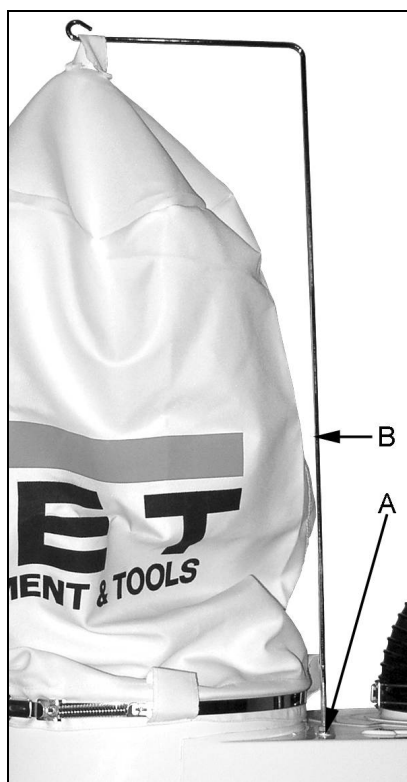

Fig 8
Attach the bag support rods (B, Fig 8) with M6 nut, spring washer and washer (A).